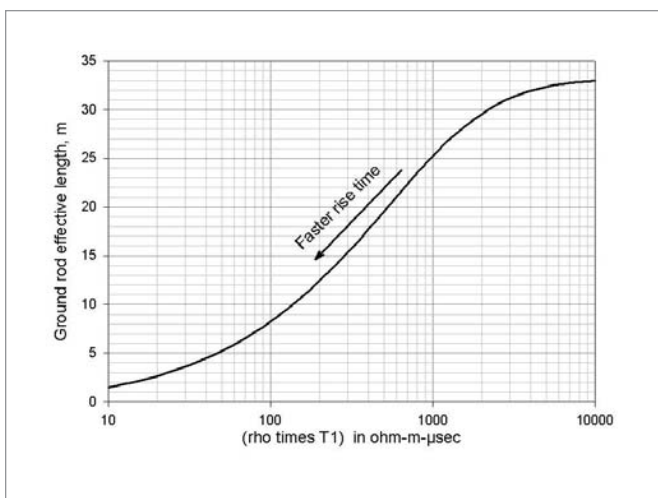

Figure 5: Variation in the effective length of a ground rod with soil resistivity and the zero-to-peak time of the surge
ρ = soil resistivity in ohm-m and T_1 is the zero-to-peak rise time of the lightning current pulse. We can use (7) and (8) to make a plot of l_{eff} vs. ρT_1 , as shown in Figure 5.